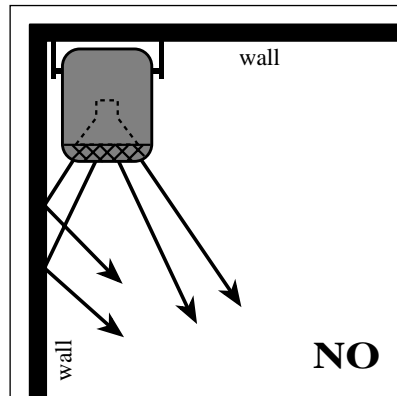

Figure 1 (Top View)
- Avoid placing speakers flush with corner walls or ceiling (see Figures 1 and 2).